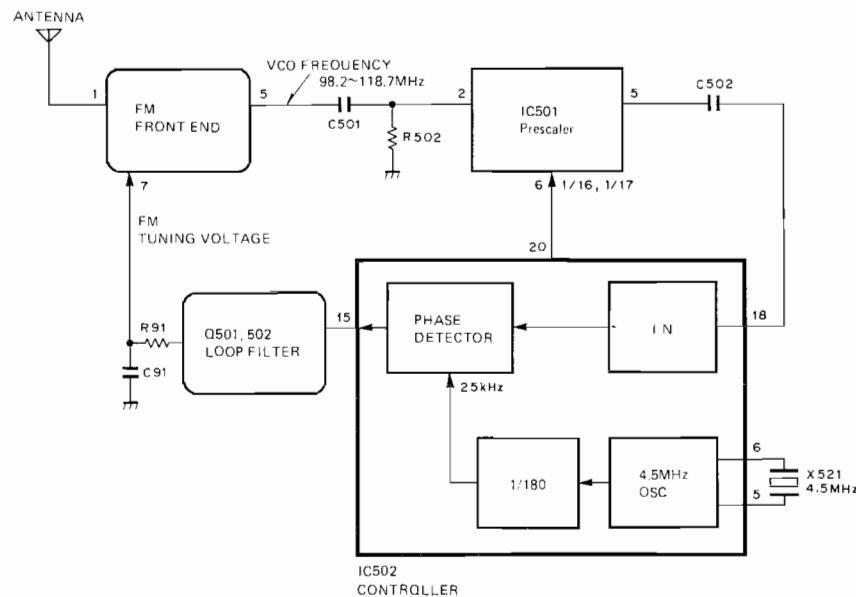

Fig. 5
• Frequency Synthesizer Section (FM) (Fig. 5)